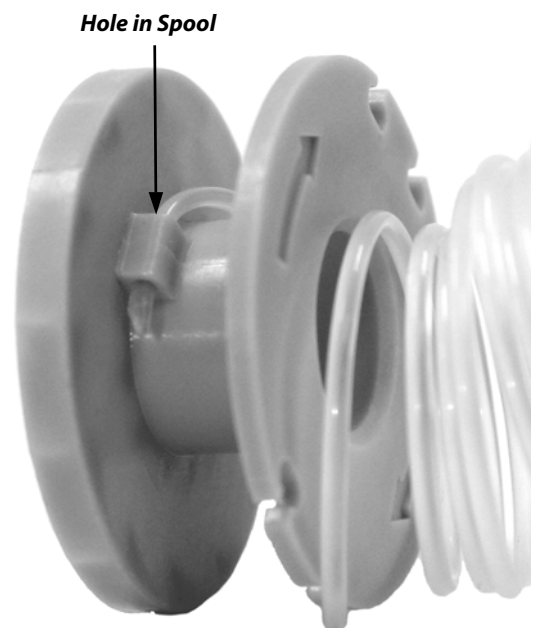

Figure 9
4. Insert one end of the Bulk Line into the Hole in the Spool as shown (**Figure 9**).